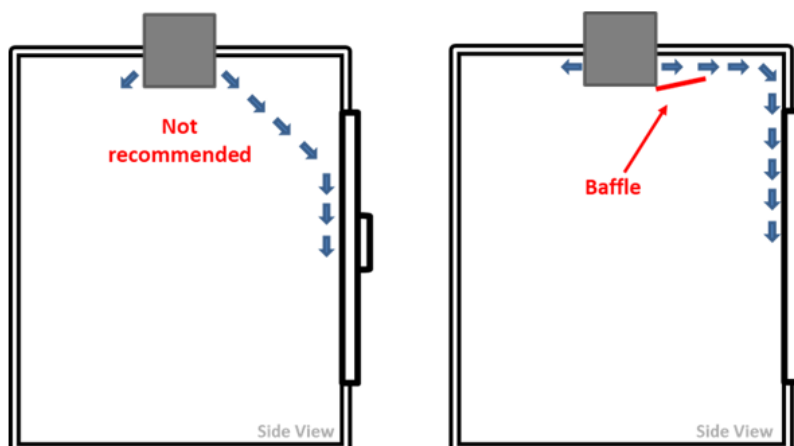

Figure 3 – Side Air Flow View - cold side – Baffle recommended for display doors
- If there are display doors, it is recommended air discharge blows above and not directly at doors. A baffle (not supplied) is recommended to direct air above door. See Figure 3).